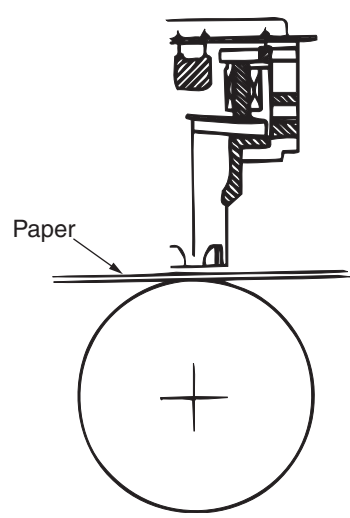

Figure 2-3
2.2.1 Print head mechanism and operation (See Figure 2-3.)
(2) Operation of print head (See Figure 2-3.)